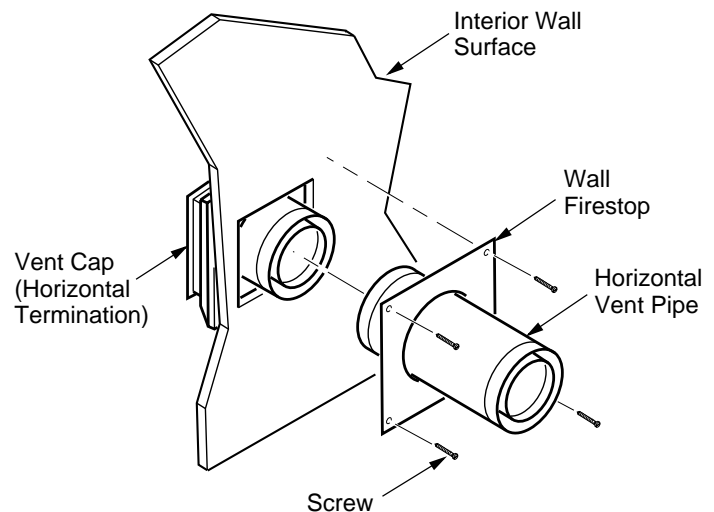

Figure 12 - Connecting Vent Cap with Horizontal Vent Pipe
7. Slide the wall firestop over the vent pipe before connecting horizontal run to vent cap (see Figure 12).